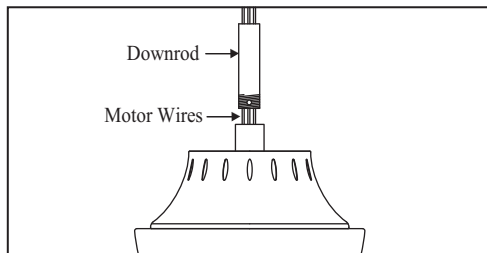

Figure 12
6. Carefully feed motor wires up through the downrod. Thread the rod into the coupling. Next line up holes and replace cotter pin and clevis pin. Tighten set screws. (Figure 12)